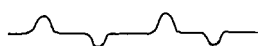
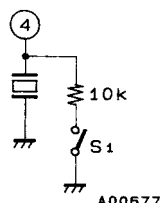

Figure 5 (Pin 4 oscillation waveform)
Figure 6 Unit (resistance: Ω)
- Pin 4 is the ceramic oscillator pin. To make the oscillation waveform approach a sine wave, the oscillation level is controlled internally. Oscillation levels of 15 to 80 mVp-p at Pin 4 give the waveform shown in Figure 5. To stop oscillation, attach an external resistor as in Figure 6 and switch S1 on.